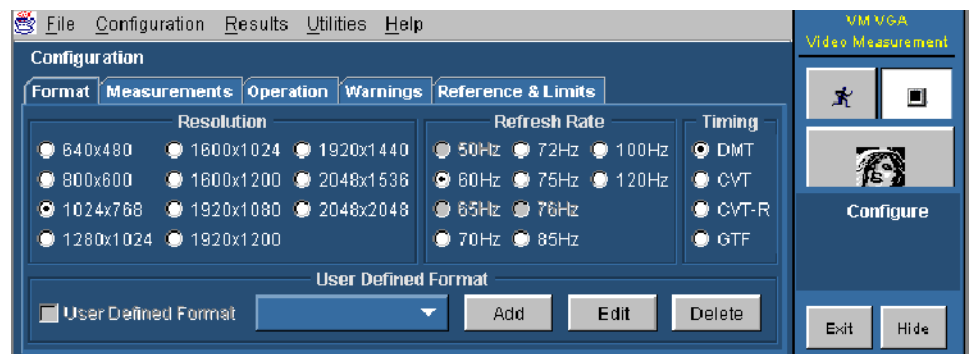

Figure 1-8: Format panel
7. In the Format Panel (**Configuration > Format**), select the appropriate format (such as 800 x 600 resolution and 60 Hz refresh rate). Leave the Timing standard as the default (that is, DMT). If the VGA display card generates signals using a different Timing Standard, change the Timing selection accordingly. Refer to Figure 1-8.